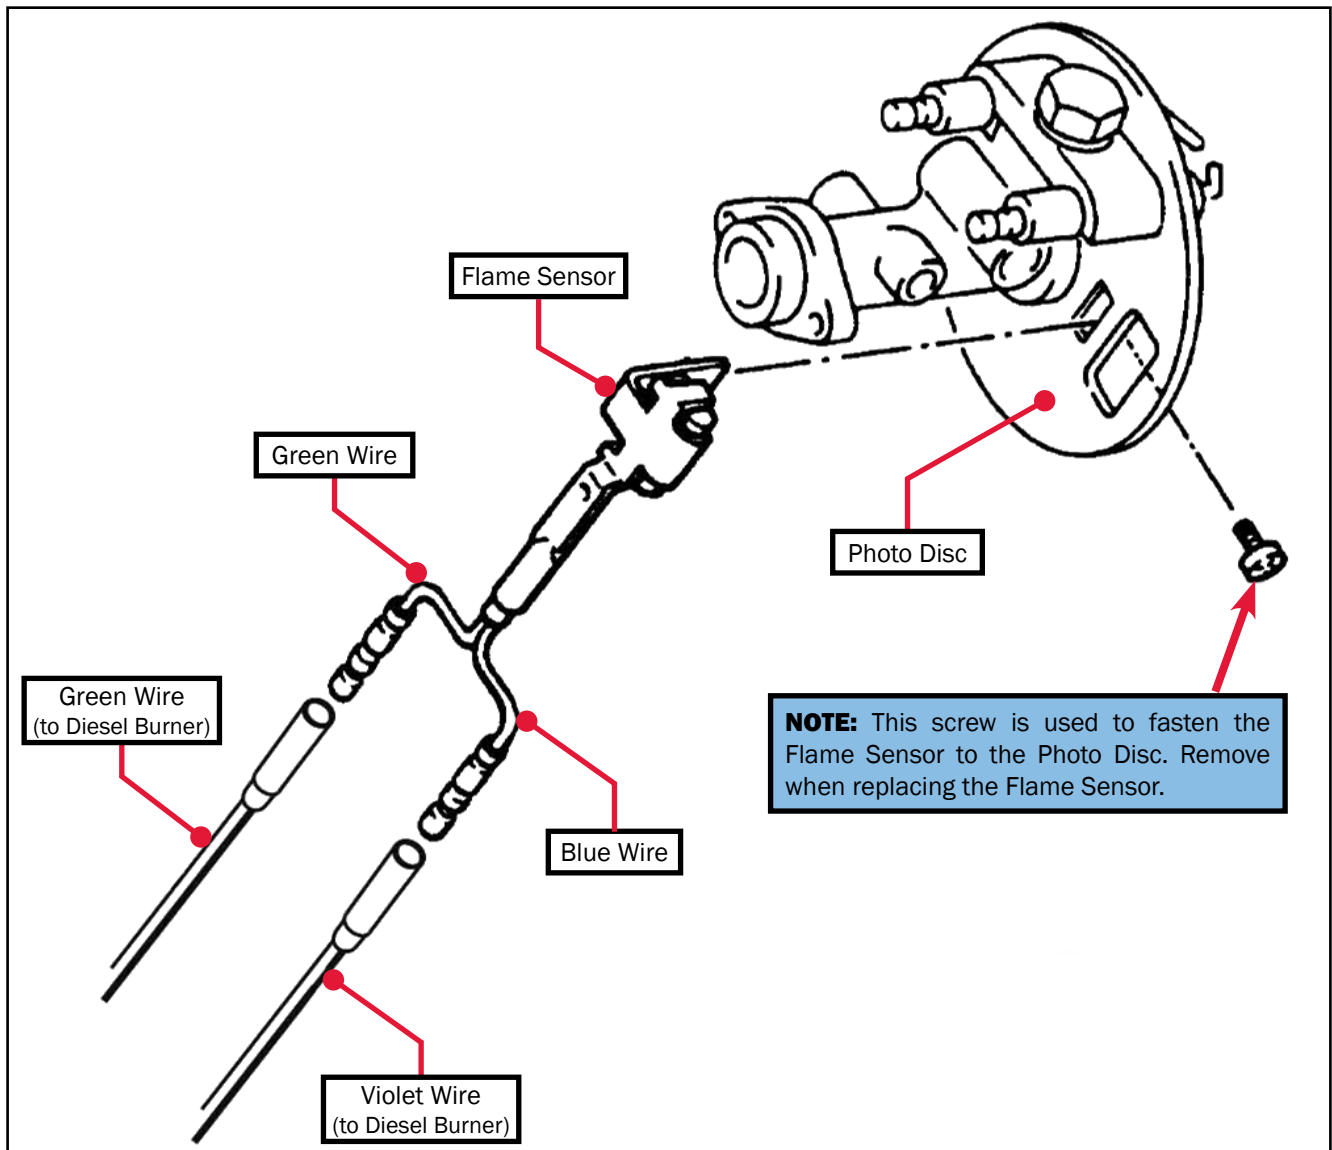

Figure 104
2. Remove the screw that fastens the flame sensor to the photo disc (as shown in Figure 104), and detach the flame sensor's green and blue wires from the C-plug harness' green and violet wires. Remove the defective flame sensor.